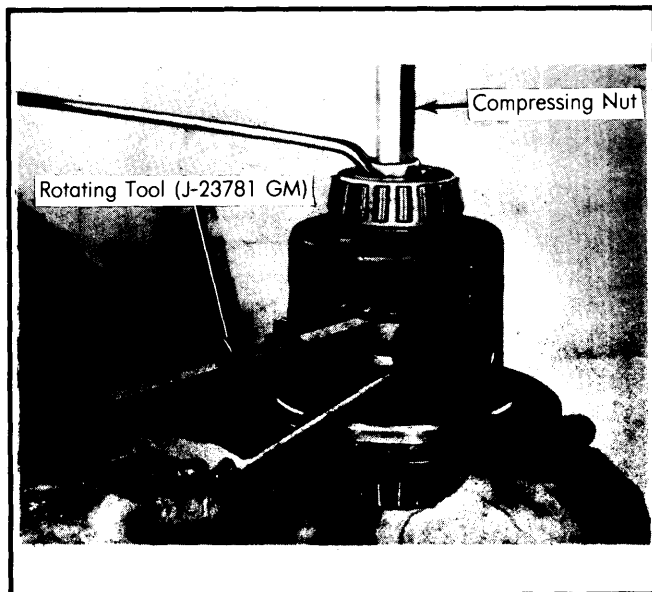

Fig. 8 Dana Side Gear Rotating Tool
3) On Dana design differentials, install clutch pack compressor/side gear rotator tool (GM J-23781) and compress clutch pack. See Fig. 8. Push pinion thrust washers out from behind pinion gears with .020" shim stock or similar tool. Using rotating tool, turn side and pinion gears until pinion gears can be removed. Remove side gear and clutch pack assembly, noting which end of case each assembly is located in.